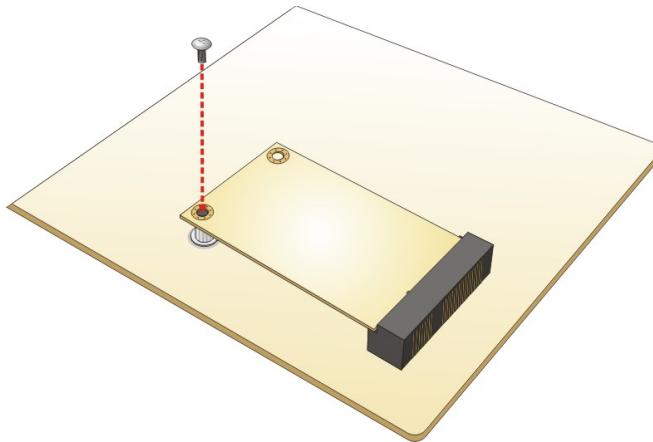

Figure 4-6: Securing the Full-size PCIe Mini Card
- Step 4:** Secure the M.2 module with the previously removed retention screw (**Figure 4-6**).
Step 4: Secure the full-size PCIe Mini card with the retention screw previously removed (**Figure 4-6**).